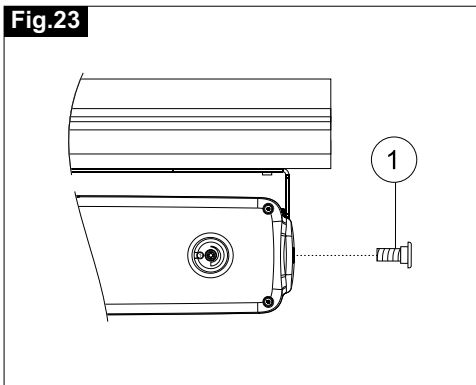

Fig.24
- 12) **Fig.24-** With an Allen wrench, adjust the opening stroke by means of a proper selector (**Ref.1**) according to the table quoted in **Fig.6a**;